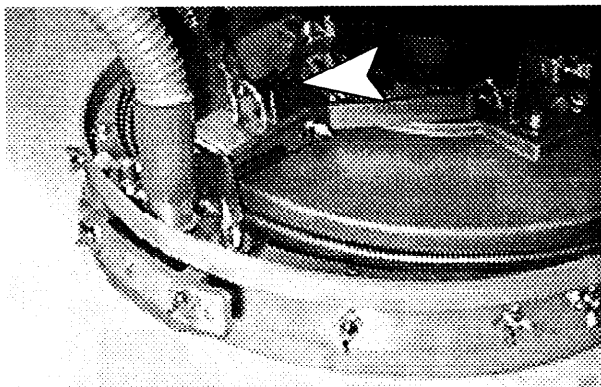

FIG. 28.
- b. To properly adjust squeegee deflection, so it's the same over the full length of the blade, turn the leveling knob. Counter- clockwise to increase or clockwise to decrease. (Figure 28)